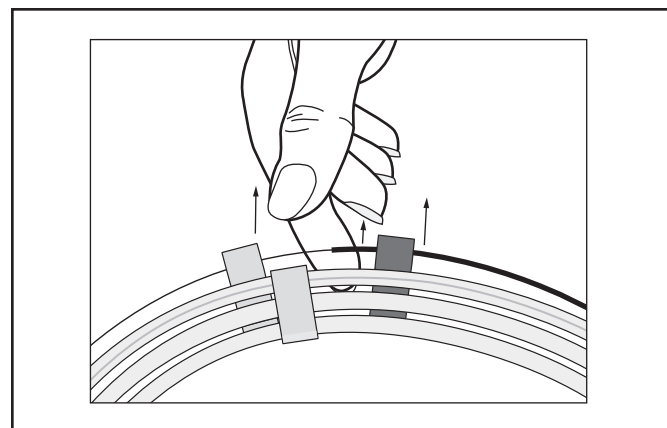

Figure 2. Carefully remove the Target Detachable Coil delivery wire and sheath together from retainers
4. Carefully grasp the wire and introducer sheath together and remove the delivery wire from the white wire retainer and orange sheath retainer, taking care not to kink the delivery wire (See Figure 2).
5. While grasping the wire and introducer sheath together, slide the Target Detachable Coil straight out of the packaging hoop taking care not to damage the delivery wire (See Figure 2).
Caution: Removing the delivery wire without grasping the introducer sheath and delivery wire together (Figure 2) may result in the detachable coil sliding out of the introducer sheath.